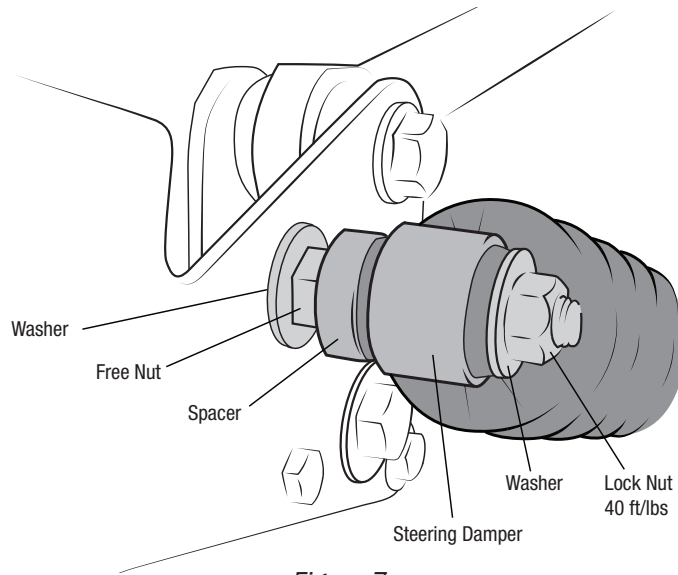

Figure 7
3. Attach the damper to the new High Steer axle bracket orienting the hardware as shown (Fig. 7).